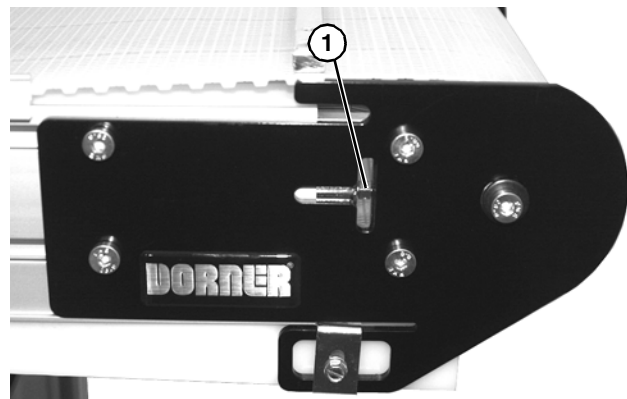

Figure 28
4. Extend head plate assembly until proper tension in the belt is achieved. If proper tensioning can not be obtained before the belt life indicator is all black (**Figure 28, item 1**) the belt must be replaced.